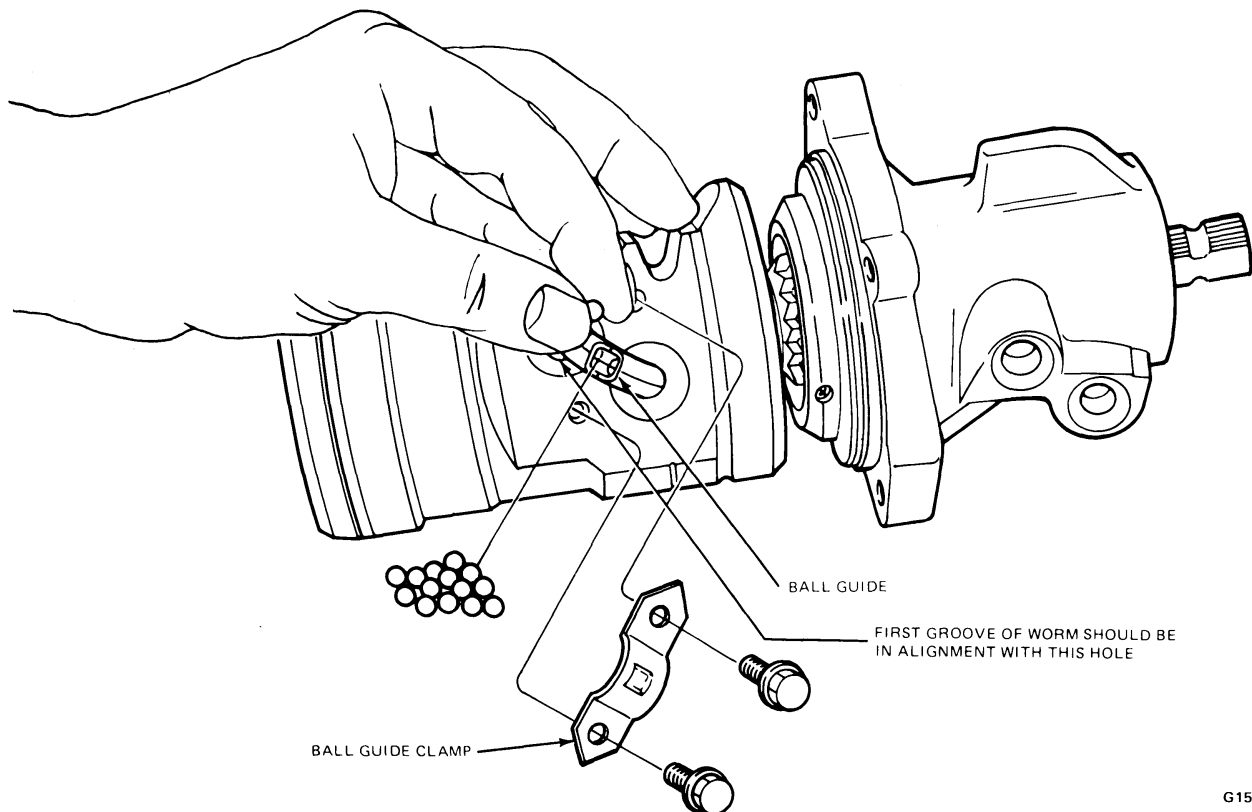

FIG. 4 Assembling Piston on Worm Shaft
6. Place the piston on the bench with the ball guide holes facing up. Insert the worm shaft into the piston so that the first groove is in line with the hole nearest the center of the piston (Fig. 4).
7. Place the ball guide in the piston. Turning the worm counterclockwise as viewed from the input end of the shaft, place the same balls as removed in Step 9 of Steering Gear Disassembly in the ball guide (Figure 4). A minimum of 27 balls is required. If all the balls have not been inserted upon reaching the left stop, rotate the input shaft in one direction then the other while inserting the remaining balls. **DO NOT** rotate the input shaft or piston more than three (3) turns from the left stop, or the balls will fall out of the circuit.
8. Secure the guides in the ball nut with the clamp (Fig. 4). Tighten screws to specification.